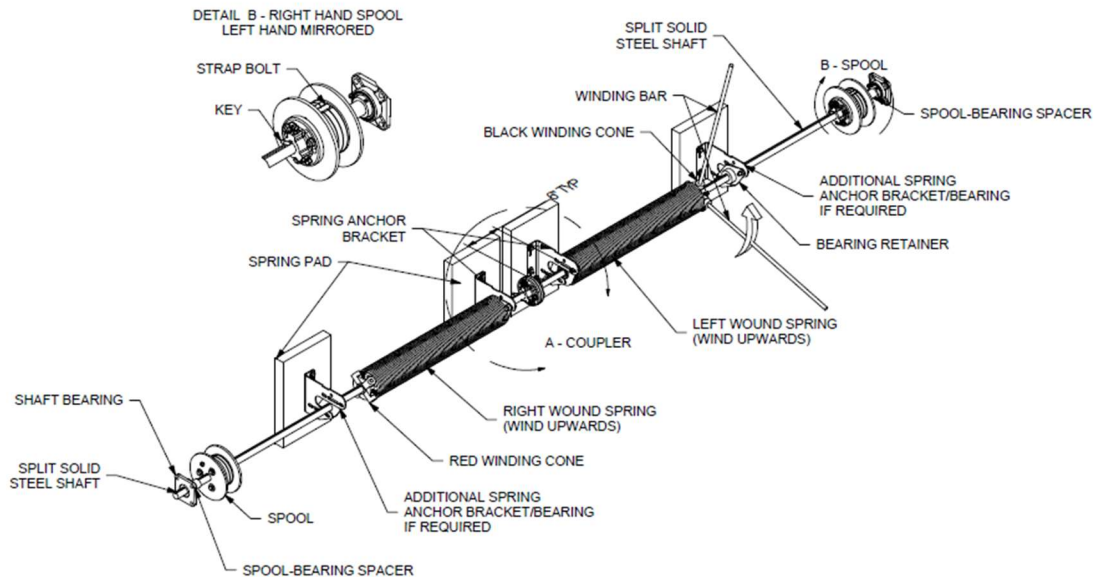

Figure 18 – SHAFT ASSEMBLY
- a. Additional bearings and anchor brackets may be required and as designated on the shop drawing. If so, they must be assembled to the shaft before the spools, as shown in **Figure 18**.
44. Center shaft(s) in opening and rest the shaft(s) on the brackets, oriented as shown in **Figure 18**. Slide spring anchor cone/center bearing against spring anchor bracket and attach loosely using (2 each) 3/8" x 1-1/2" [10 mm x 38 mm] cap screws and nuts. Fasten shaft couplers (if necessary) together while making sure to keep the keys aligned.